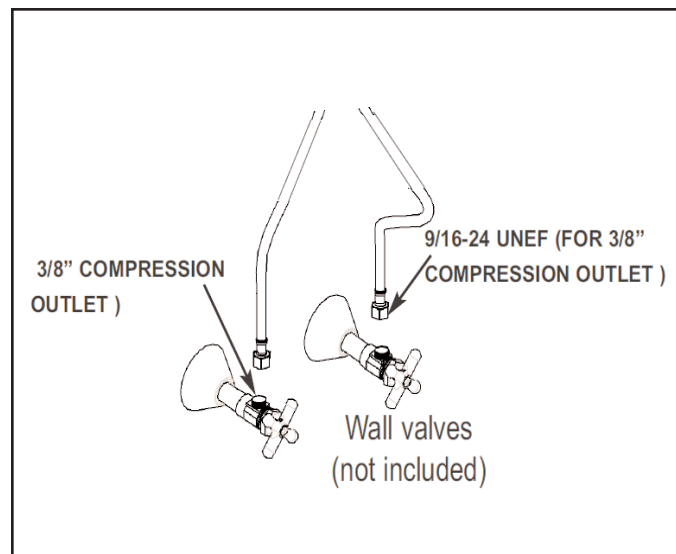

Figure 2
- 2. Attach hot/cold spout supply hoses to appropriate supply lines and valves in the wall. See Fig. 2**